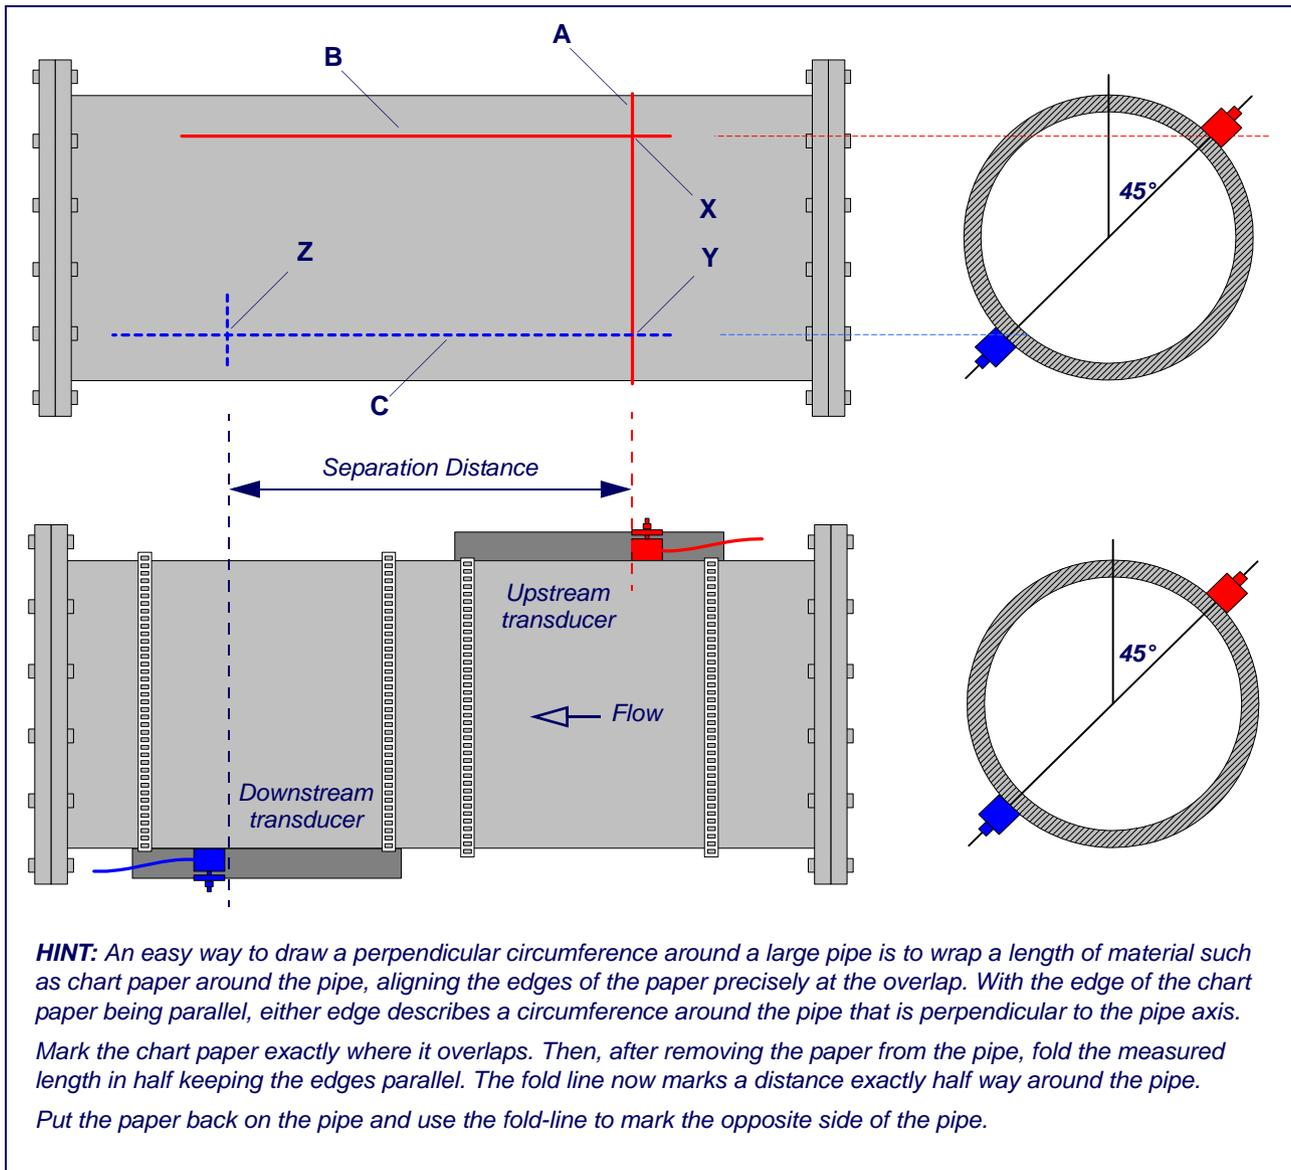

Figure 2.13 Transducer mounting for diagonal mode of operation
This mode of operation requires two transducer guide rails fitted on opposite sides of the pipe, as shown in Figure 2.13 – notice that the guide rails are still fitted on a 45° axis with respect to the top of the pipe. When used with type 'A' or 'B' transducers the guide rails used are identical to that shown above, and the second guide rail and fixings must be purchased as an option kit.
2. Using whatever means available, mark a reference line around the circumference of the pipe approximately where the upstream transducer is to be fitted – line 'A' in Figure 2.13.
5. From point 'Y', draw a three foot long line ('C') perpendicular to 'A' and parallel to the pipe axis. This is shown as a dashed line in Figure 2.13 as it is on the rear of the pipe.